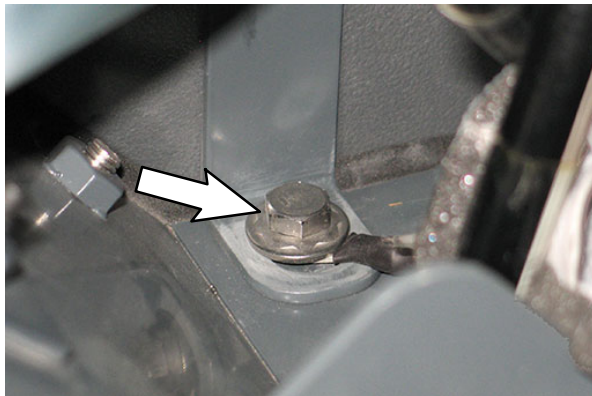

FIG. 11
11. Route the green wire (8) down to the hardware securing the bracket into the hopper and use hardware to connect the green wire to the hopper. (Fig. 11).